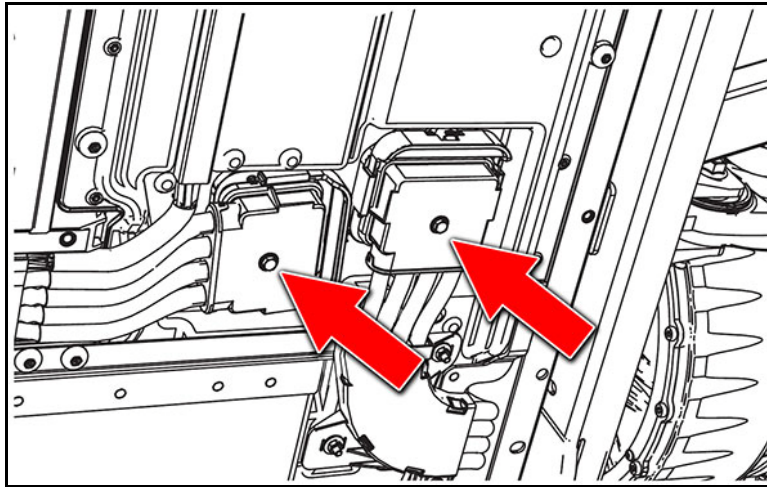

Figure 3D
3.4. Remove both rear HV pack connectors (Figure 3D).